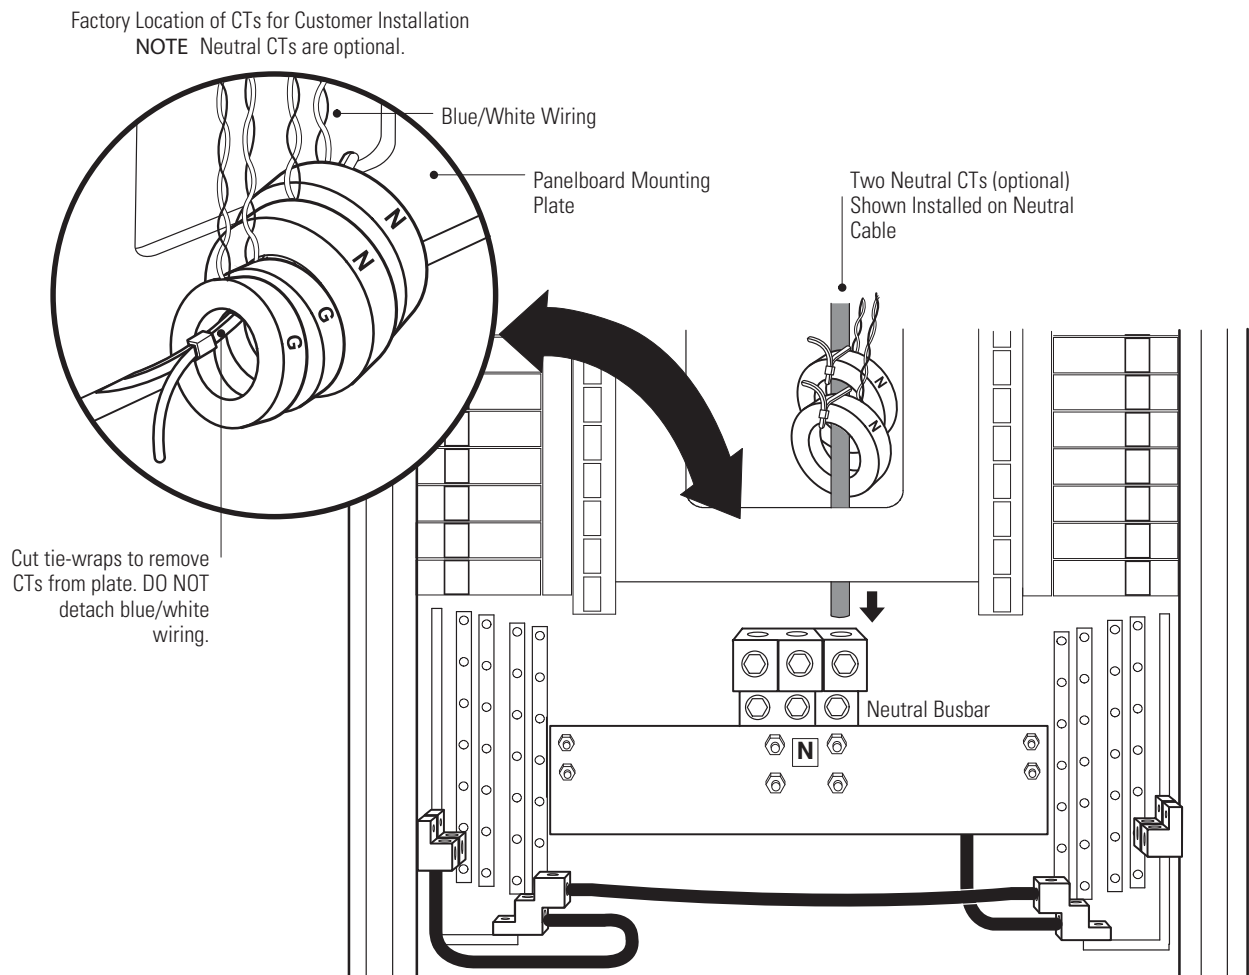

Figure 11. Installing the Neutral (Single 800A Main Input Lug, Single 400A Main Input Breaker, and Single 600A Main Input Breaker)
7. **Single 800A Main Input Lug, Single 400A Main Input Breaker, and Single 600A Main Input Breaker configurations.** Install the neutral connection (see Figure 11, and Table 2, and Table 3 on page 12):
NOTE Figure 11 shows top entry wiring, one panelboard, optional neutral CTs for measured neutral current, and front access installation.